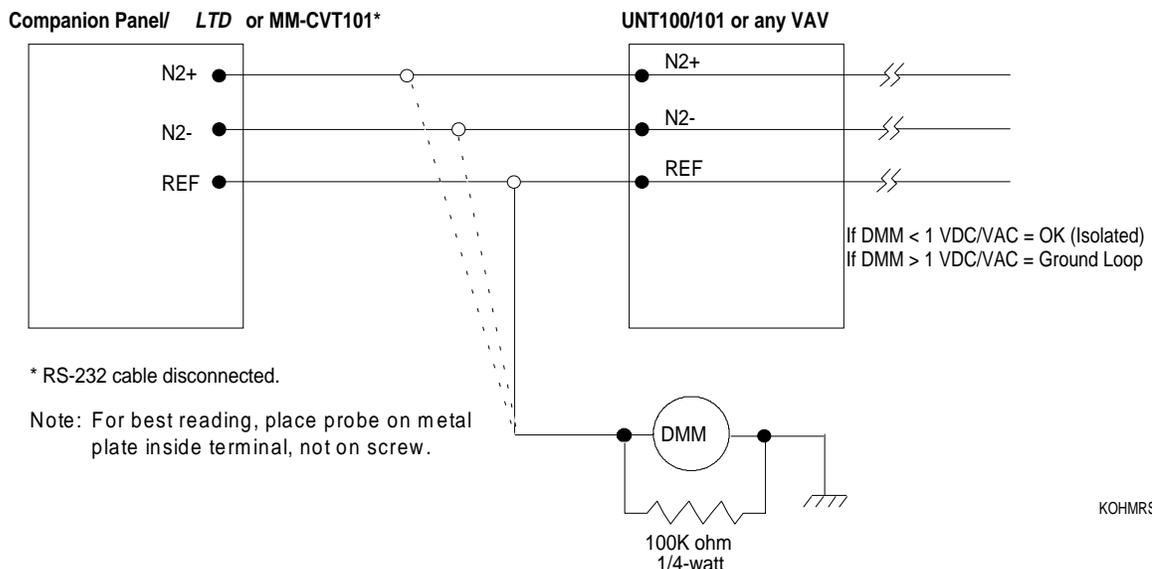

Figure 12: Measuring N2 Bus Wires to Earth Ground
- a. Connect one DMM lead to REF, N2+, or N2- and the other to earth ground (Figure 12). Read the VDC/VAC scale on the DMM.